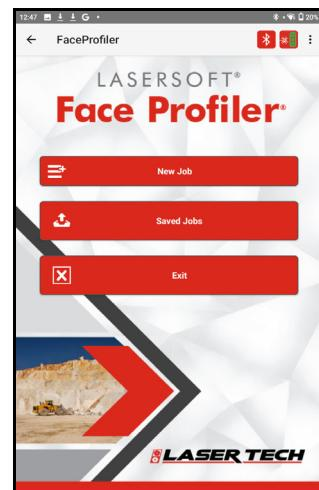

Figure 18
1. Tap the [New Job] button (Figure 18).